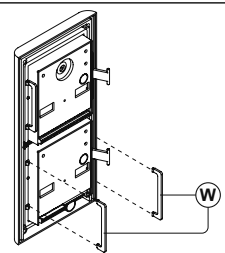

Fig. 10
Fit the anti-tampering locks (W) as shown in **Fig. 10**.